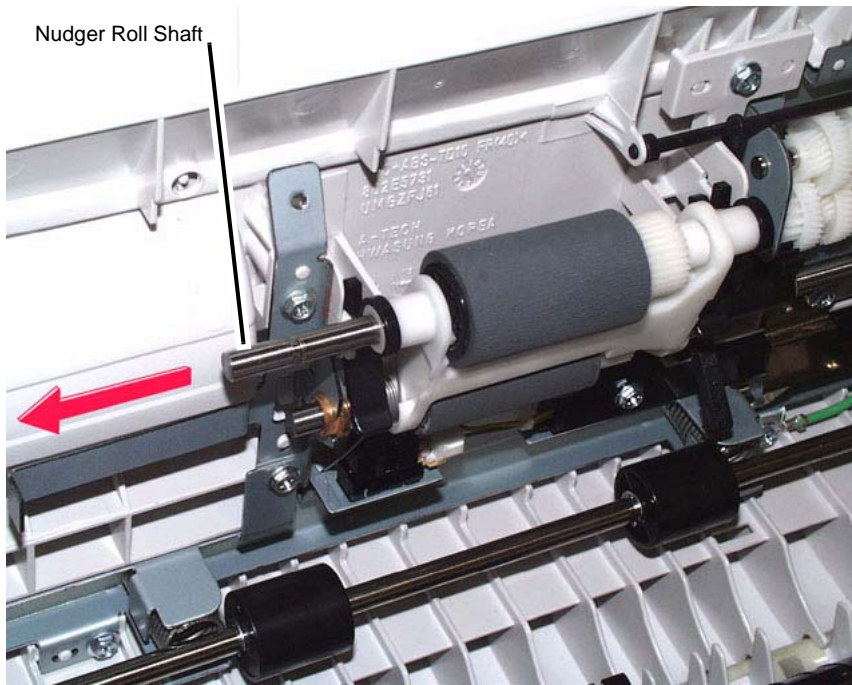

Figure 4 Removing the Nudger Roll shaft and the Nudger Roll
5. Remove the Nudger Roll Shaft and remove the Nudger Roll. (Figure 4)